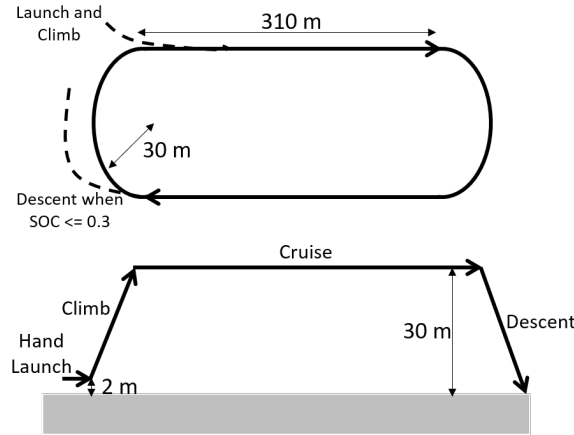

Figure 1: Mission Profile Overview: Cruise Path (top) and Full Mission Phases (bottom)
3. **Cruise phase:** This is the main mission. You'll fly a given pattern (see Figure 1). The cruise phase starts once you've reached 30 m, and ends when your battery's state of charge (SOC) drops below 30%—you'll need that reserve energy for a safe landing.